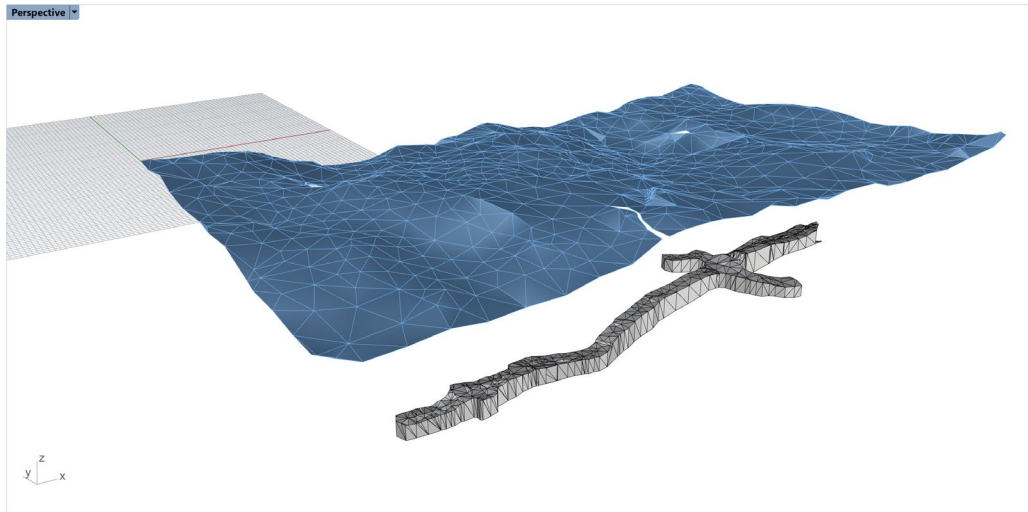

Figure 66: Drift model located near zero coordinates.
7. Maximize *Perspective* viewport and select Shaded view (Figure 66).